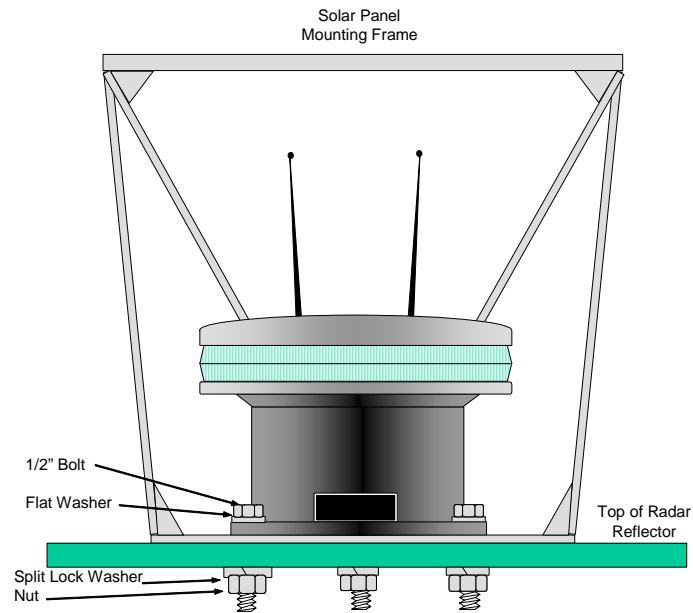

Figure 3-25
- c. On buoys the lantern should be purchased with the high base or elevated at least 4" so that the lantern ring does not obstruct the light, as shown in Figure 3-25. Spacers can be fabricated locally.